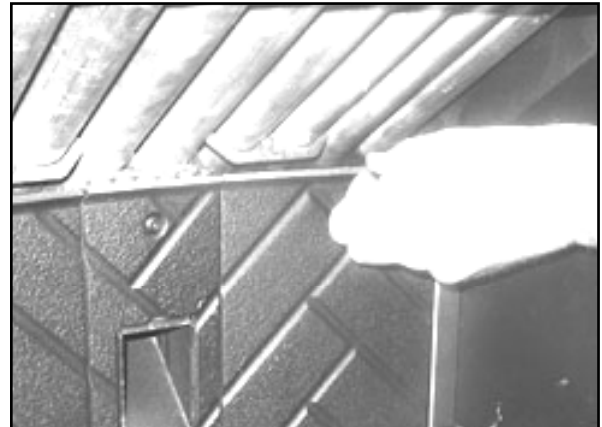

Figure 35.3
4. Remove right brick by pulling up and then towards you to expose the exhaust venting for cleaning. **Figure 35.3.**